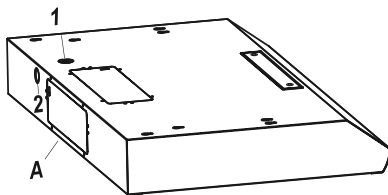
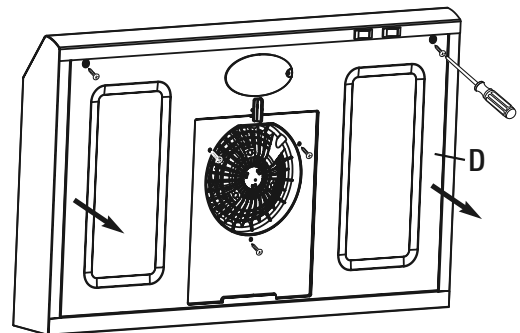

Fig. 10
Fig. 13
- Remove the bottom panel of the range hood (see Fig. 13) to access the electrical wire leads.
- Use the power supply cable to connect the range hood (A) directly to the junction box or circuit breaker box. Use a flexible, armoured, or nonmetallic sheathed copper cable only. Never use an extension cord or adapter plug.
- Connect a UL-listed or CSA-approved conduit connector to each end of the power supply cable (at the range hood and at the junction box). Connect the 2 colored wires from the range hood (A) to the corresponding wires from the electrical source: black to black (live), white to white (neutral), and the house grounding wire to the green ground screw. Use either the top hole (1) or the back hole (2) of the range hood depending on your installation type as shown in Fig. 10.
- Choose the appropriate electrical knock-out hole to remove for your installation type. Use the top hole (1) if your electrical supply is in the cabinet and the back hole (2) if your electrical supply is on the wall below the cabinet (refer to Fig. 10).